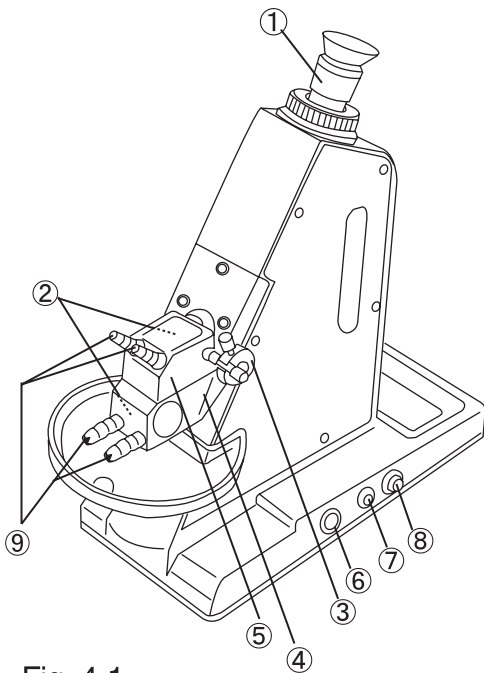

Fig. 4-1
(1) Main unit (Figs. 4-1, 4-2 and 4-3)
① Eyepiece: